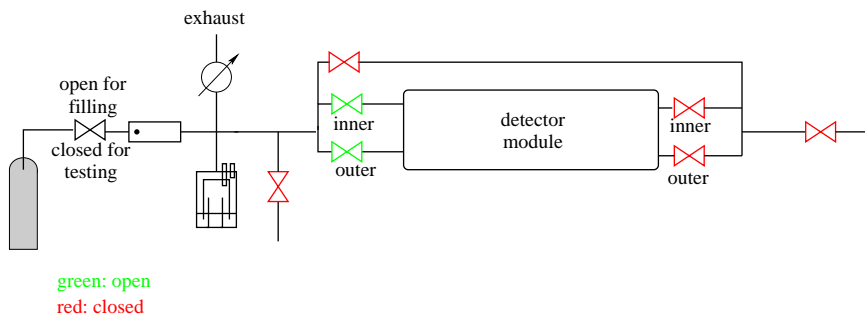

Figure 3: Settings of valves for leak rate measurements.
- Adjust the settings of the valves as shown in figure 3.